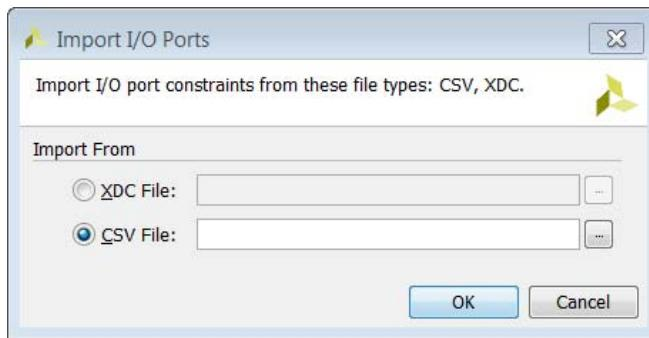

Figure 3-7: Import I/O Ports Dialog Box
2. In the Import I/O Ports dialog box (Figure 3-7), select **CSV File**, and browse to select the file to import.
2. In the Import I/O Ports dialog box (Figure 3-7), select **XCDC File**, and browse to select the file to import.